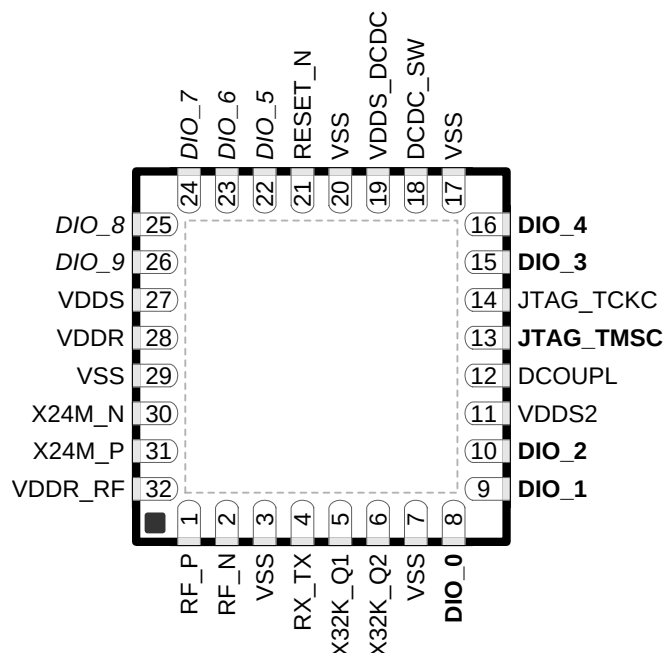

**Figure 4-1. RSM (4-mm × 4-mm) Pinout, 0.4-mm Pitch
• Changed Figure 4-1	8
Figure 4-1 shows the RSM pinout diagram.
I/O pins marked in Figure 4-1 in **bold** have high-drive capabilities; they are as follows:
I/O pins marked in Figure 4-1 in *italics* have analog capabilities; they are as follows: